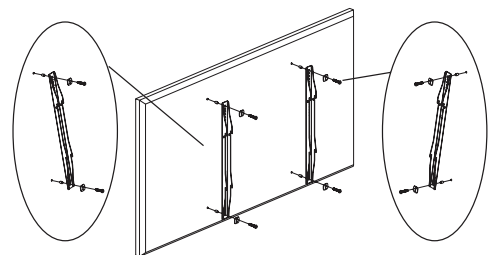

Figure 4
- Ensure the arms are installed flat side to television and are square to each other after all screws have been installed (Figure 4).